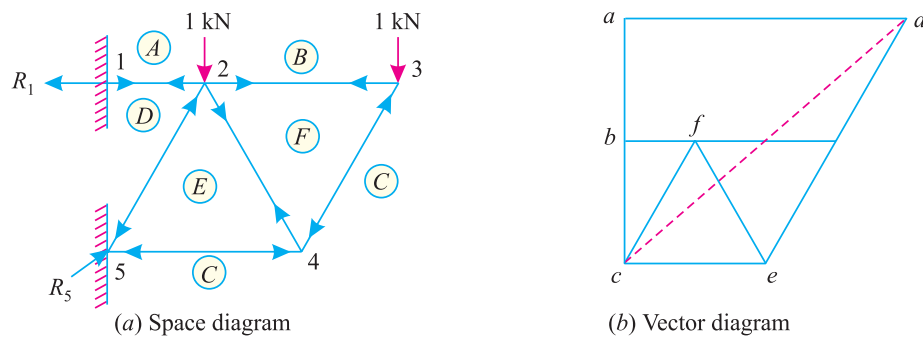

Fig. 14.24.
**Solution.** First of all, draw the space diagram and name all the members and forces according to Bow's notations as shown in Fig. 14.24 (a).
Now draw the vector diagram, starting from the free joint (3) as shown in Fig. 14.24 (b). Measuring the various sides of the vector diagram, the results are tabulated here :